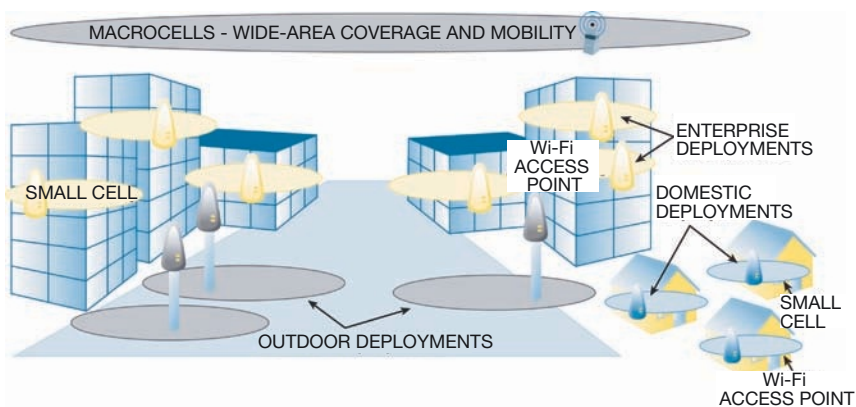

Figure 28 Operators can leverage Wi-Fi access points and strategically placed small cells to offload traffic from the macro network (courtesy Radisys Corp).
- **Seamless solutions for data offload.** En route to the 25 exabytes/year of traffic estimated by 2015, Wi-Fi and small-cell technologies will play important roles (Figure 28). Small cells, in the form of indoor femtocells and outdoor pico- and microcells, provide coverage and data offload, improving the capacity of the network. In 2013, we'll find these technologies jointly existing in indoor and outdoor spaces.